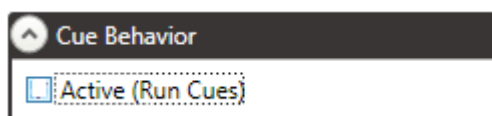

Figure 101
2. In the **Cue Behavior** section of the **Stagehand FX Editing Pane**, deselect the **Active** field (Figure 101).